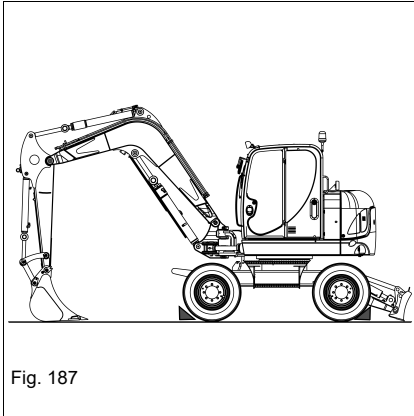

Fig. 187
12. Secure the vehicle with wheel chocks (see Fig. 187).